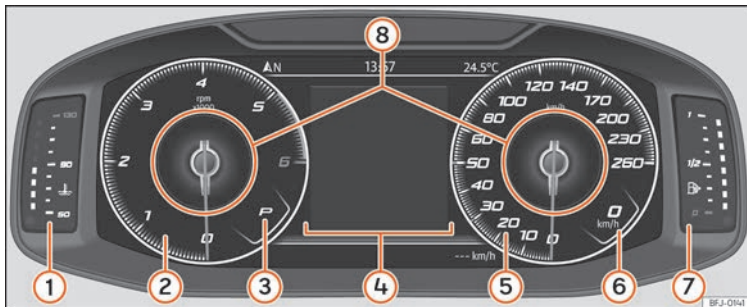

Fig.124 SEAT Digital Cockpit on the instrument panel (classic view).
In *Classic View* and *Semicircular watches* it is possible to customise the information displayed under **Information Profiles** »» Fig. 124 ⑧.
» Fig. 124.